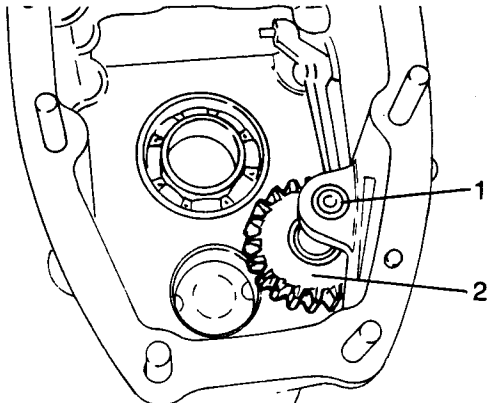

Fig H1.132
(2) Refer to Fig H1.132. Remove reverse pinion shaft (1) towards the rear of the casing, using a press.
(3) Remove the gear (2).